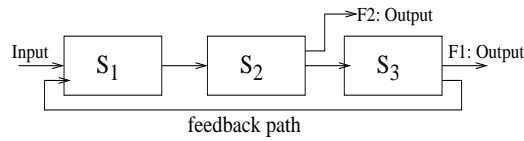
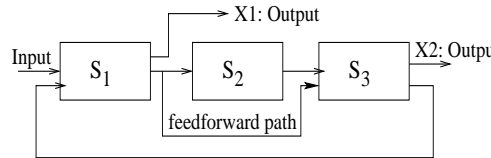

Figure 20: Feedback
Figure 21: Feedforward
Pipeline architecture of Figure 20 (Figure 21) can realize a function say, F1 that utilizes S_1 , S_2 , and S_3 in 3 consecutive clock/pipeline cycles respectively.
- b. There can be feedback from a later stage j to an earlier stage i of the pipeline (in Figure 20, from stage S_3 to S_1).
- c. There can be feedforward links from pipeline stage i to stage j (in Figure 21, from stage S_1 to S_3).